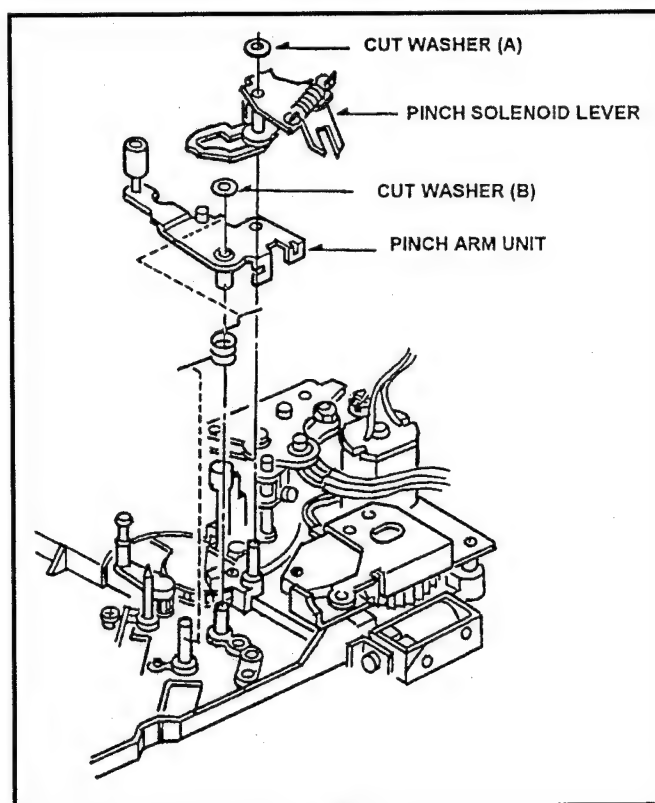

Fig. M10
2. Remove the Pinch Solenoid Unit (Refer to item 4).
3. Remove the cut washer (A) to remove the Pinch Solenoid Lever as shown in Figure M10.
4. Remove the cut washer (B) to remove the Pinch Arm Unit as shown in Figure M10.